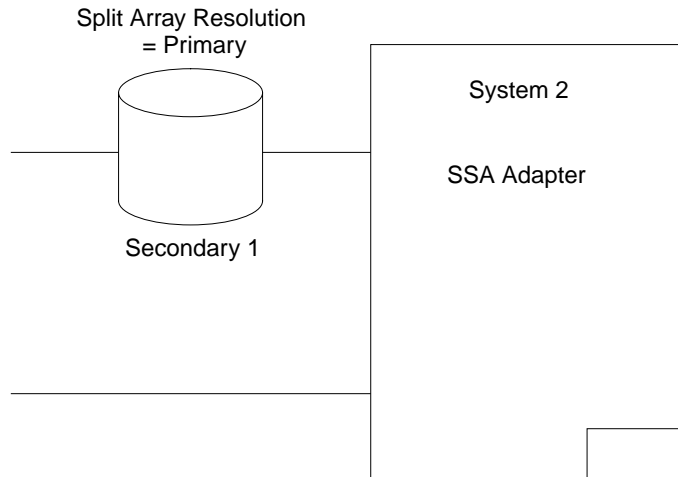

Figure 35. RAID-1 Failure of a Host System and a Primary Disk Drive
**RAID-1 Failure of a Host System and a Primary Disk Drive:** Figure 35 shows system 2 disconnected from system 1. The array is in the Offline state. If you set Split Array Resolution to **Secondary**, the array goes into the Good state.